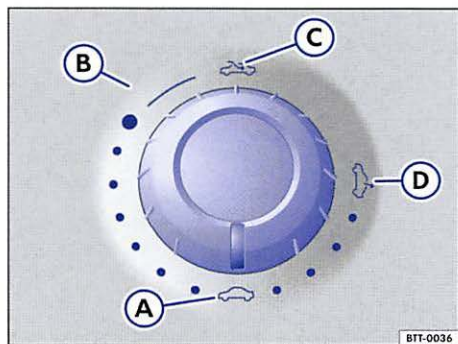

Fig. 31 In the headliner: rotary switch for the power sunroof.
Turn the ⇒ fig. 31 rotary switch to the desired position to set the power sunroof in the following positions:
- Turn the rotary switch to position ⇒ fig. 31 Ⓐ and pull down the rear part of the switch until the power sunroof closes completely.